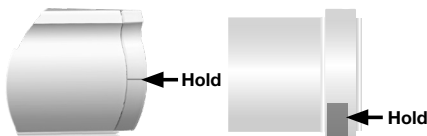

Fig. 3
3. Press and hold the program button on the headrail/motor end, release when LED flashes green (about 3 seconds). (Fig. 3.) The shade will jog and all LED's will turn off. The shade will now operate from the newly added remote.